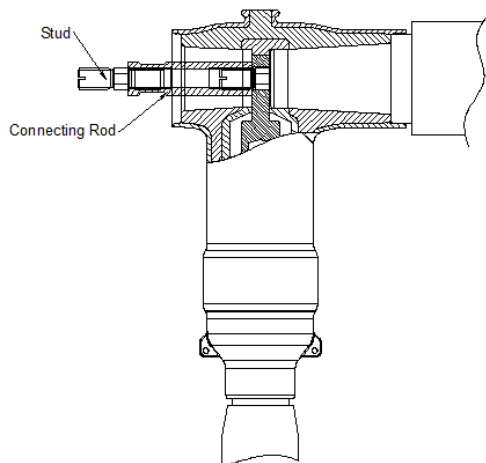

Fig.13
Step 3. Tighten the rod and stud assembly to approximately 50-55 Nm, using a 22 mm open end wrench. (See Fig. 13) (Slotted outwards)